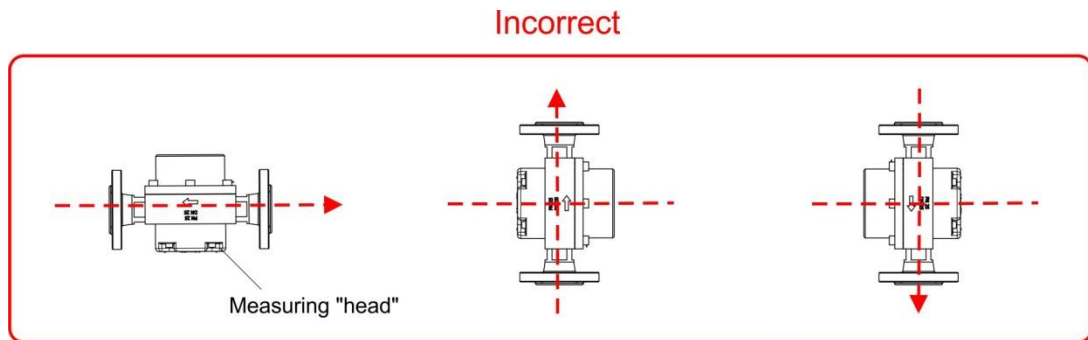

Figure 15 — DFM Marine operating position relatively to horizontal plane
- 4) To ensure declared accuracy of measurement, it is allowed to install fuel flow meter **in "head up" position only**. Flow meter can be slightly (**up to 30 degrees**) inclined up or down from its horizontal axis. **Installation of flow meter heading down is not allowed** (see figure 15).